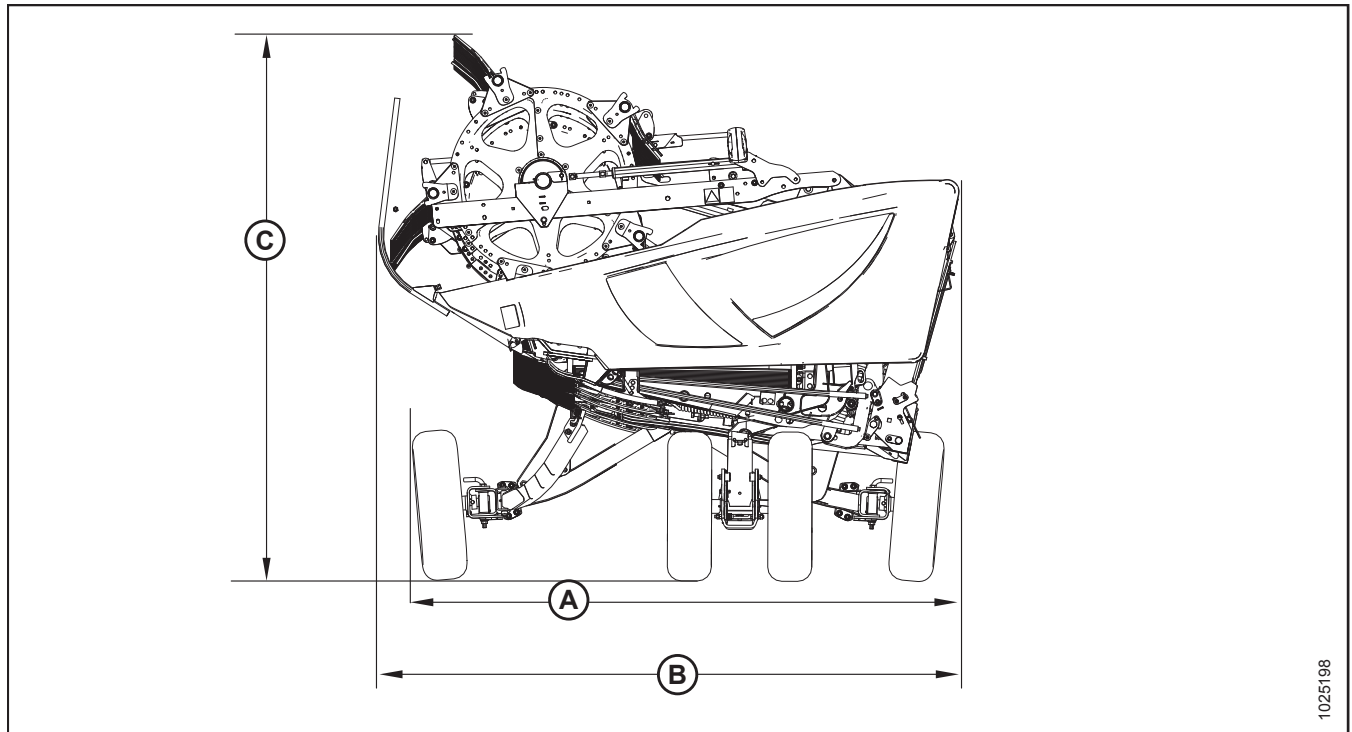

Figure 2.2: Header Width
2. Refer to Figure 2.2, page 31.